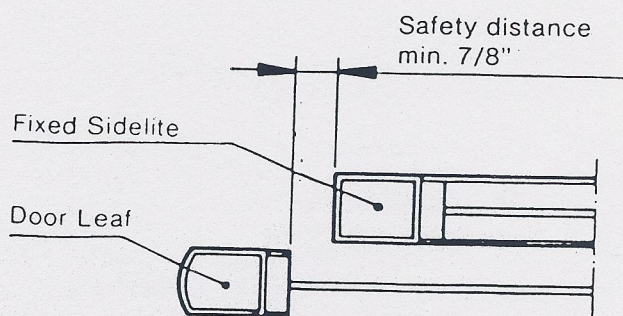

Fig. 18
**NOTE:** In the case of framed doors the distance between the glass bead and the fixed sidelite door edge (see Fig. 18) must be 7/8" min. This distance provides finger protection. Loosen the door stops, move them in against the carriage wheel fitting and tighten firmly.